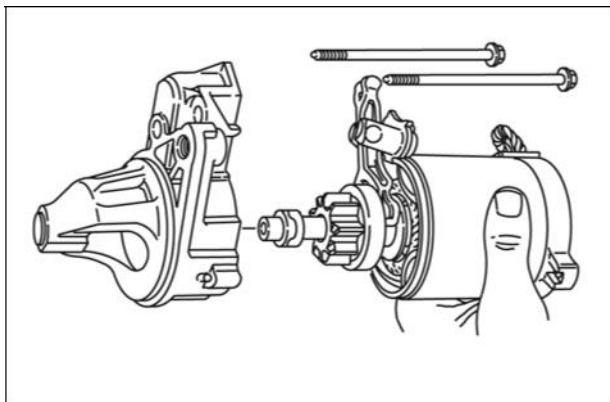

Figure 51
7. Pry off snap rings using small screwdriver (Figure 51).